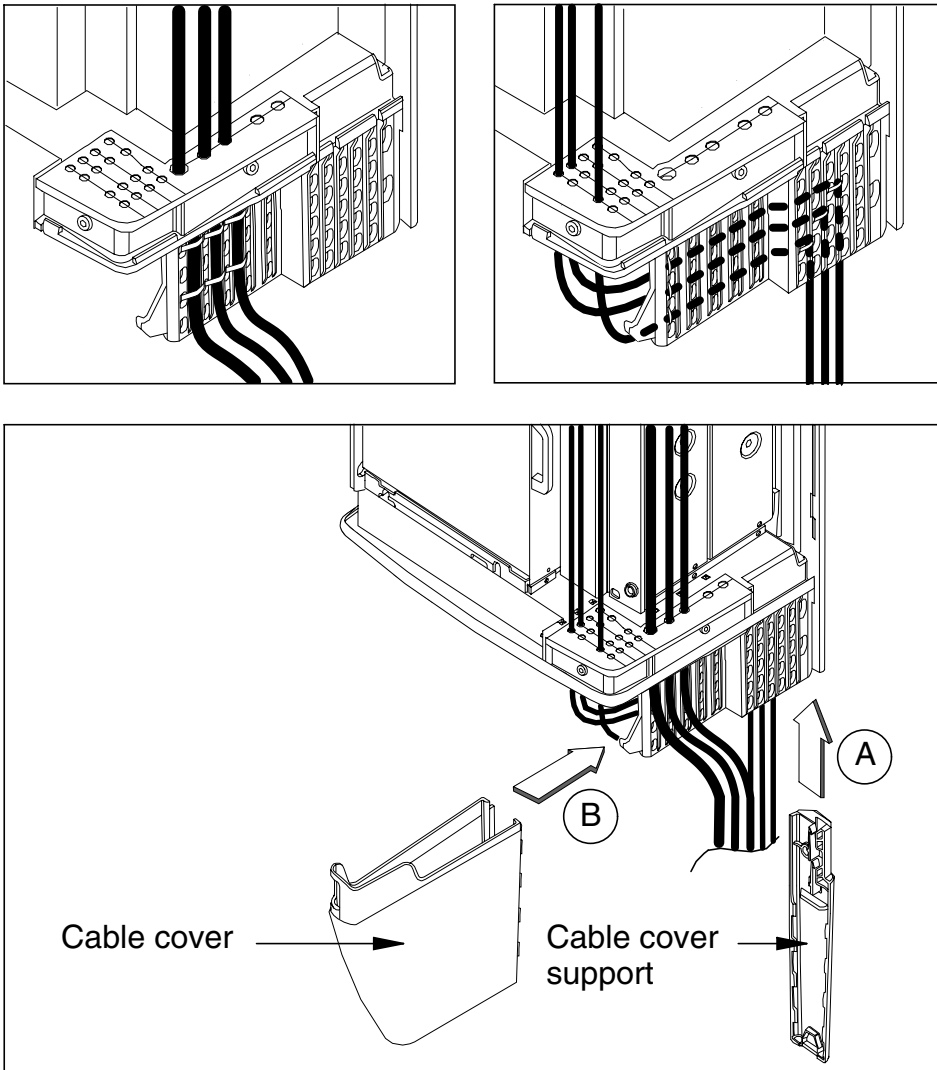

Figure 13. Routing the cables and fitting the cable cover
2. Fit the cable cover (see Figure 13) as follows: